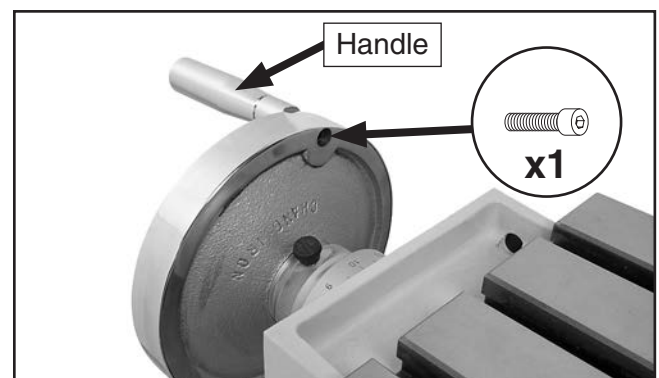

Figure 14. Handle attached to handwheel.
2. Secure the three handles to the handwheels with the M6-1 x 25 cap screws, as shown in **Figure 14**.